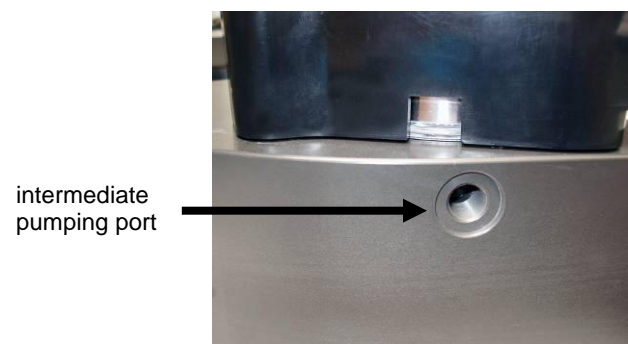

Fig. 2
8. This valve has a double sealed rotary feedthrough and optionally an intermediate pumping port for the actuator shaft. This port (1/8" ISO/NPT) could be connected to the vacuum line, see Figure 2 below.